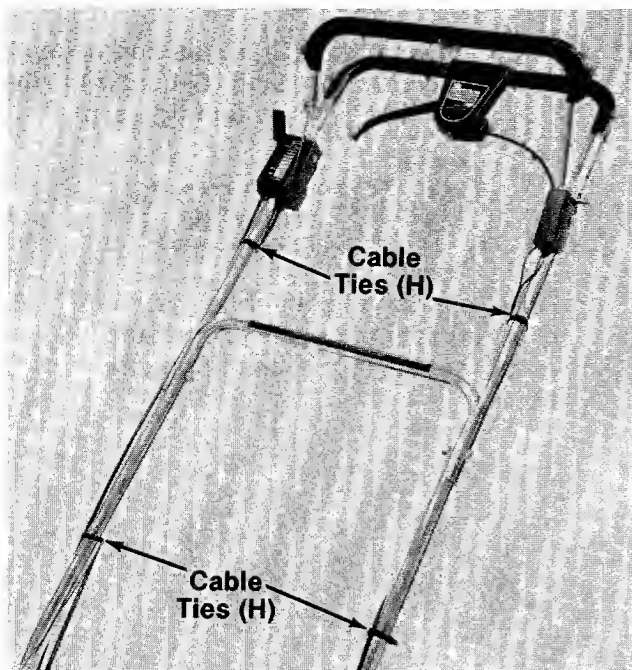

FIGURE 13.
19. Secure all control cables to upper and lower handles with cable ties (H). See figure 13.